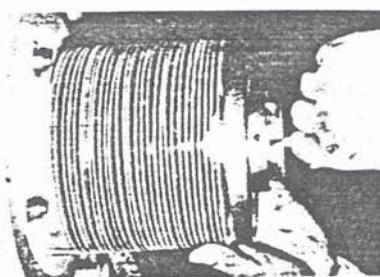
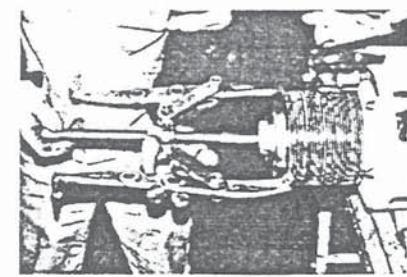

Fig. 8-6
Fig. 8-7
- h) Remove the fan cover from the motor. [Motor type I (GHP6138, 6166, 6168, 6184, 6188)]. (Fig. 8-6)
- i) Loosen the setscrew of the cooling fin and take away the cooling fin from the shaft by means of a poller. (Fig. 8-6), (Fig. 8-7)